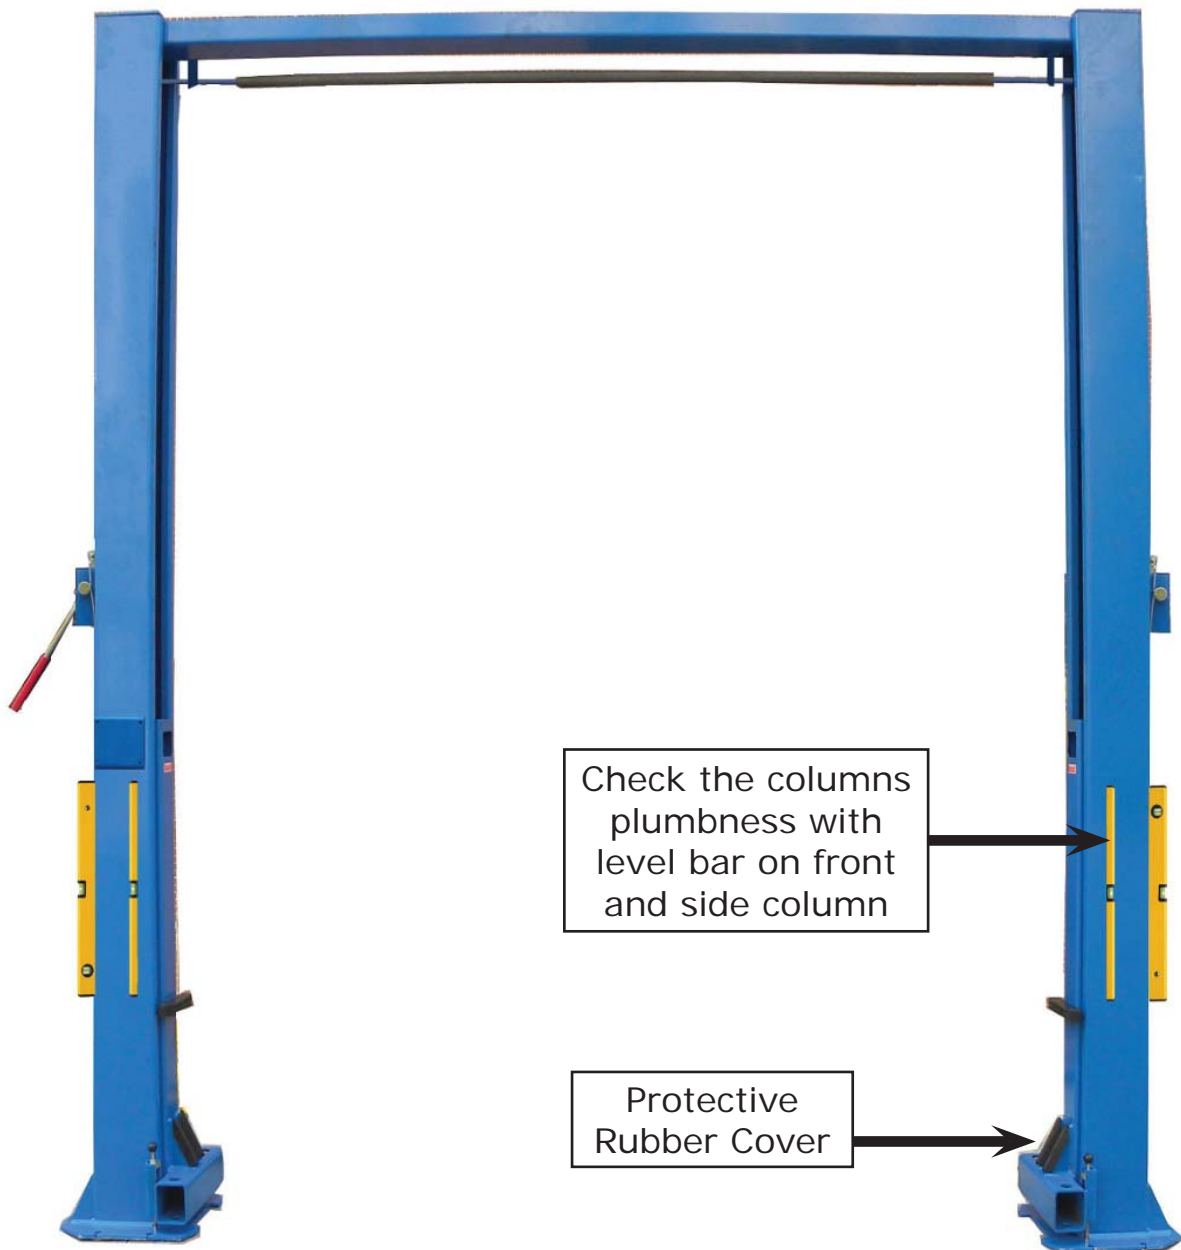

Fig. 19
K. Position column, making sure the baseplate aligns with the chalk line, then install the protective rubber covers. Check the columns plumbness with level bar, and adjust with the shims if the columns are not level (See Fig. 19).